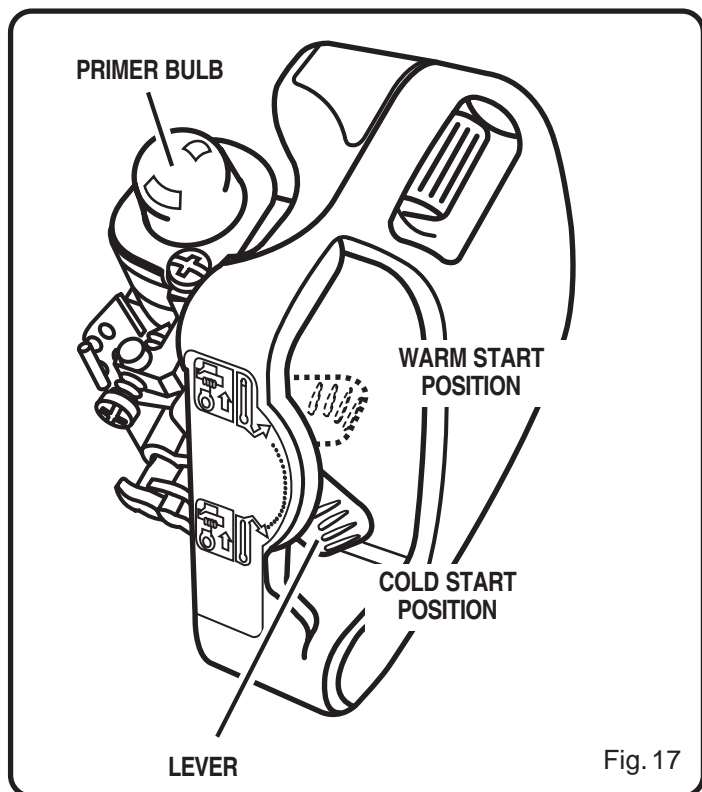

Fig. 17
- 3 Move the lever to the "**COLD START**" position. See Figure 17.